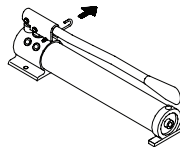

Figure 3 - Pull spring loaded lock pin, pivot toward rear to unlock pump handle.
- Pull spring loaded lock pin, pivot toward rear to unlock the handle (Fig. 3).